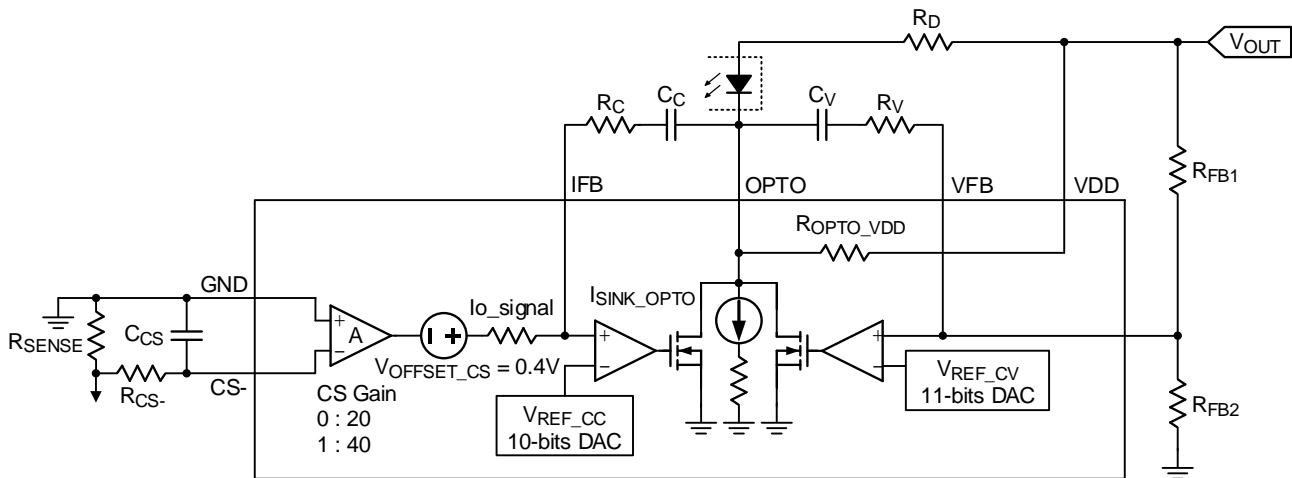

Figure 5. CV Loop and Current-Sense Amplifier
17.1 Constant-Voltage (CV) Loop
As shown in Figure 5, the RT7202K integrates an error amplifier (EA) to regulate the output voltage. The output voltage is determined by the following equation: